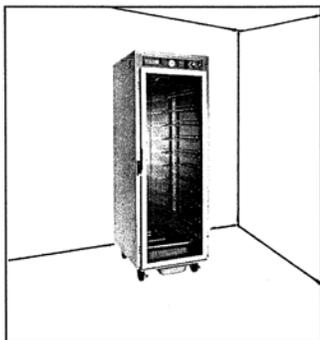

Fig. 2
*The installation location must allow adequate clearances for servicing and proper operation. (Fig.2)*